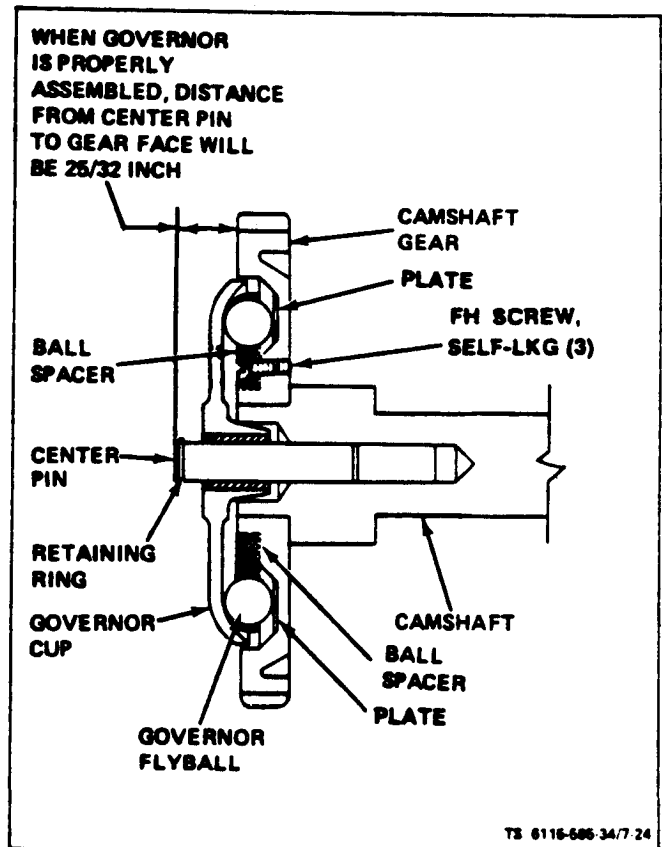

Figure 7-24. Governor Cup Assembly
a. Remove (see figure 7-24). On ASK equipped generators, refer to Operator and Organizational Maintenance Manual and remove cover assembly. Remove retaining ring from camshaft center pin and slide cup off. Be sure to catch the ten flyballs that will fall out when cup is removed.
b. Repair. Replace any flyballs that have flat spots or grooves. Replace cup if race surface is grooved or rough. The governor cup must be a free spinning fit on camshaft center pin, but should be replaced if excessively loose or wobbly. Check distance the center pin extends from the camshaft gear, this distance must be $25/32$ inch to give proper travel distance for the cup (see figure 7-24). If it is less, the engine may race; if more, the cup will not hold the balls properly. If distance is too great, drive or press center pin in. If it is too small, replace pin; it cannot be removed without damaging the surface. If aluminum ball spacer openings are badly worn, replace ball spacer. Remove self-locking flat head screws, install new screws, ball spacer and plate.